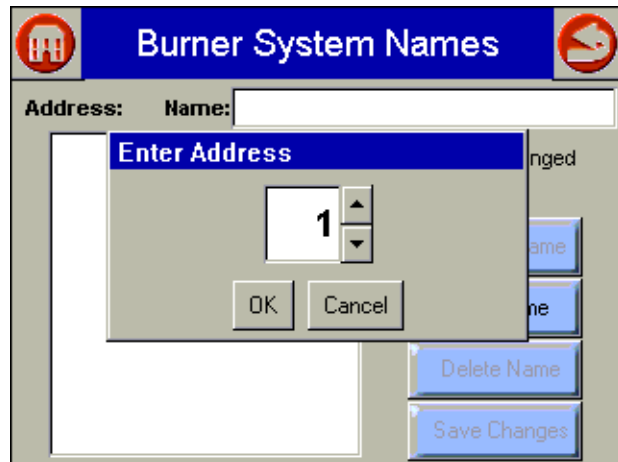

Fig. 100. Burner System Names—Enter Address.
2. Enter Modbus™ address (Fig. 100).